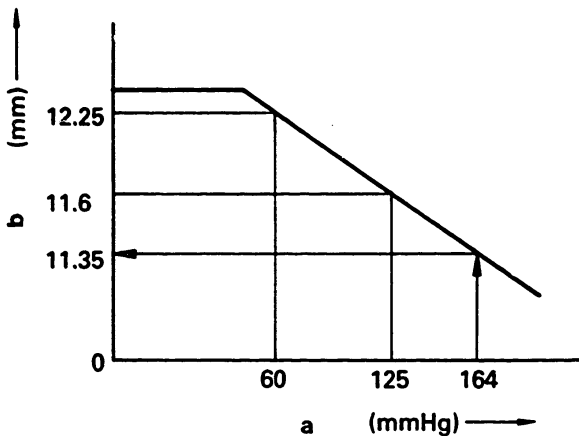

Fig. 89
2. Obtain the control rack position value in accordance with the negative pressure plotted from the Service Data. In Fig. 89 for example, the control rack position value corresponding to a negative pressure of 164 mmHg is 11.35 mm.
3. Then divide the value obtained from Fig. 89 by the corrected value of 1.17, to obtain the actual control rack position corresponding to the altitude.